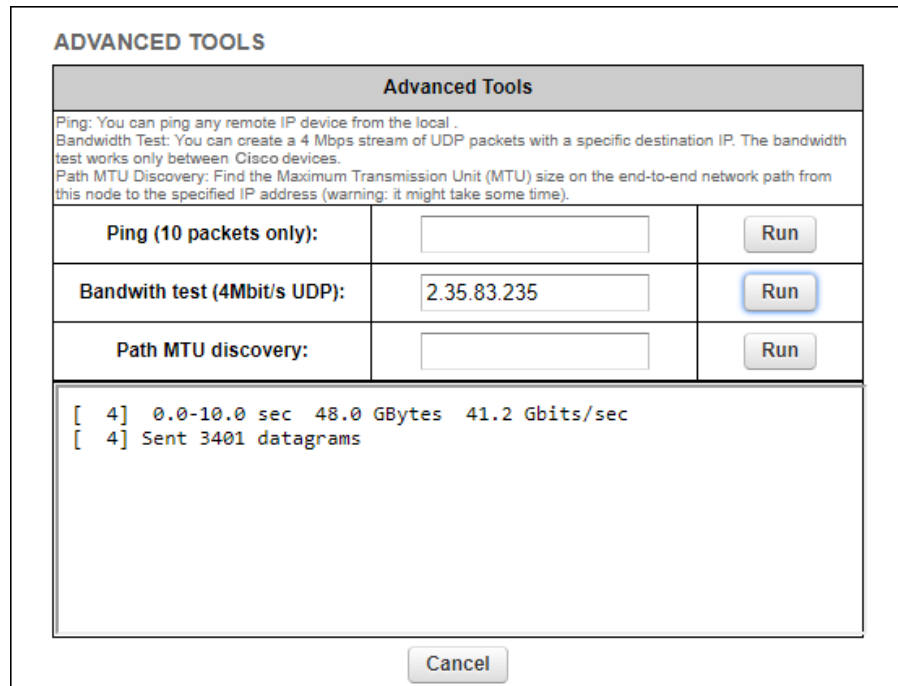

Figure 30. Advanced Tools window (Bandwidth test tool)
2. Enter the IP address of the other unit in the **Bandwith test (4Mbit/s UDP):** field (Figure 30 (page 91)).